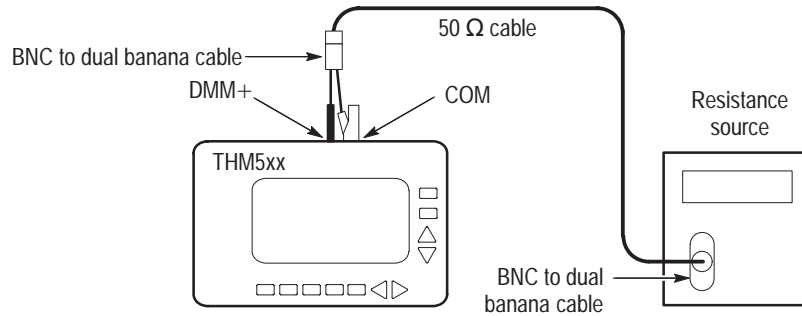

Figure 3: Resistance accuracy test setup
1. Set the THM500 series instrument to **METER** mode displaying Ω . Connect the THM500 series instrument to the resistance source as shown in Figure 3.